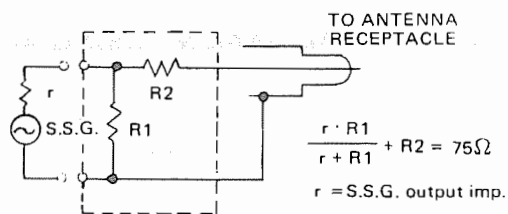

Fig. 4 FM DUMMY ANTENNA
- 2) Dummy antenna: Refer to Fig.4